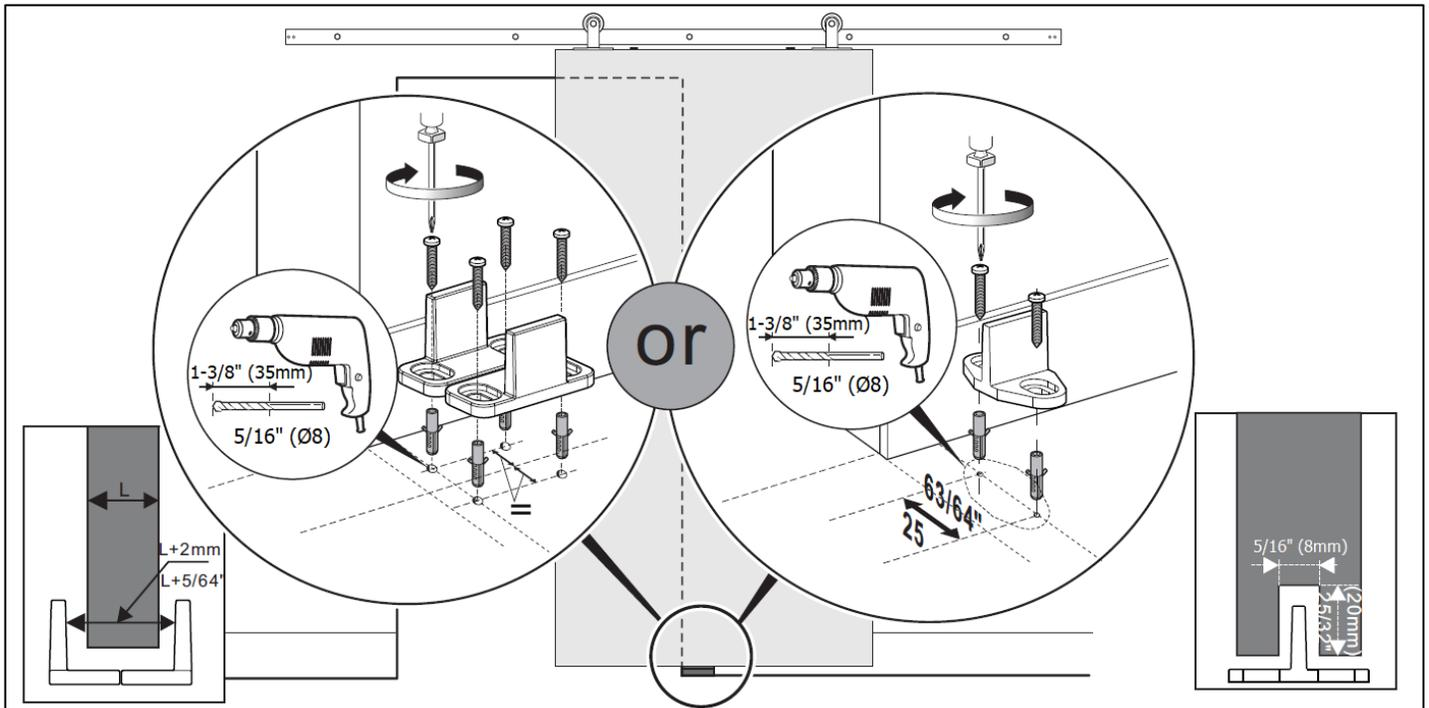

Figure 10
- There are two different Floor Mounted Guides included in this kit. If the Floor Mounted Fin Guide is chosen to guide the door, route the bottom of the door using a 5/16" (8mm) routing bit. See Figure 10. Otherwise, skip this step.